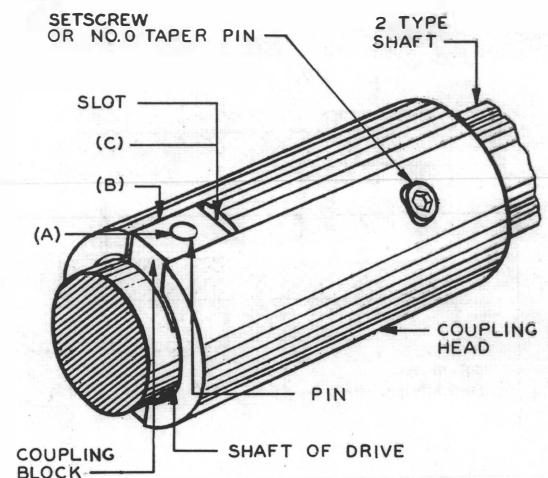

Fig. 19 - 2-type Shaft Coupling
Bearing Surfaces of the Coupling Pins - Fig. 19(A)
All Surfaces of the Coupling Blocks - Fig. 19(B)
Slots of Coupling Head - Fig. 19(C)